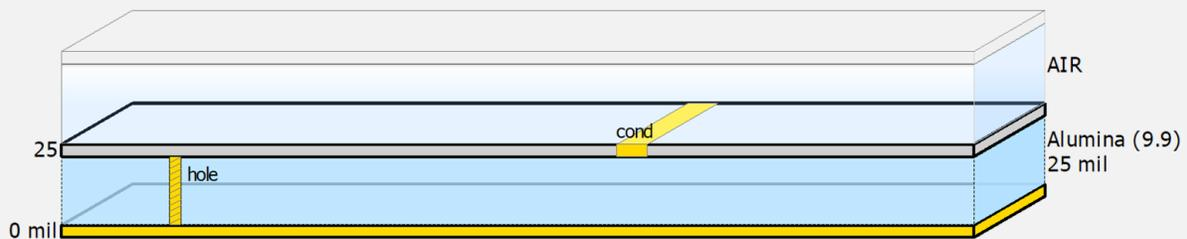

Figure 38. Substrate overview
4. Create a substrate using the 25 mil Alumina template, with $\text{Er} = 9.9$ and $\text{TanD} = 0.0009$. Define the conductor layer as Gold with **conductivity of $4.1\text{E}7$** and **thickness of 0.7 mil**. The “hole” layer will also have Gold conductivity as shown in Figure 38.